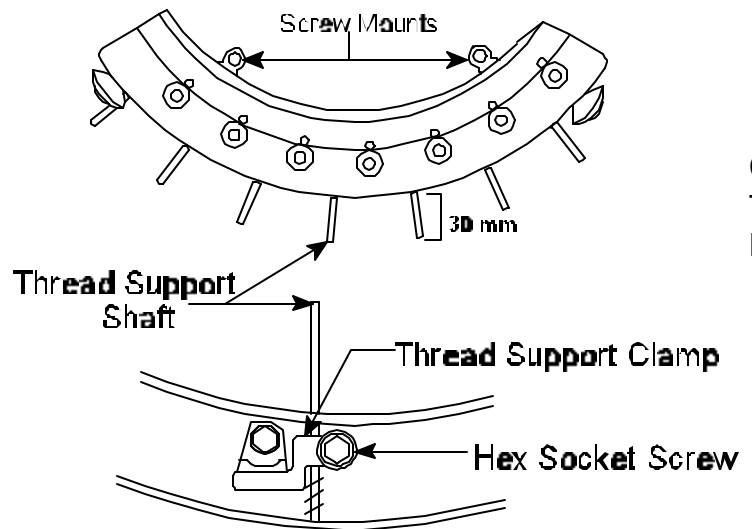

Figure 5
9. Using a 2.5 mm Allen wrench, **loosen** seven Thread Support Clamp **hex socket screws**. See Figure 5.